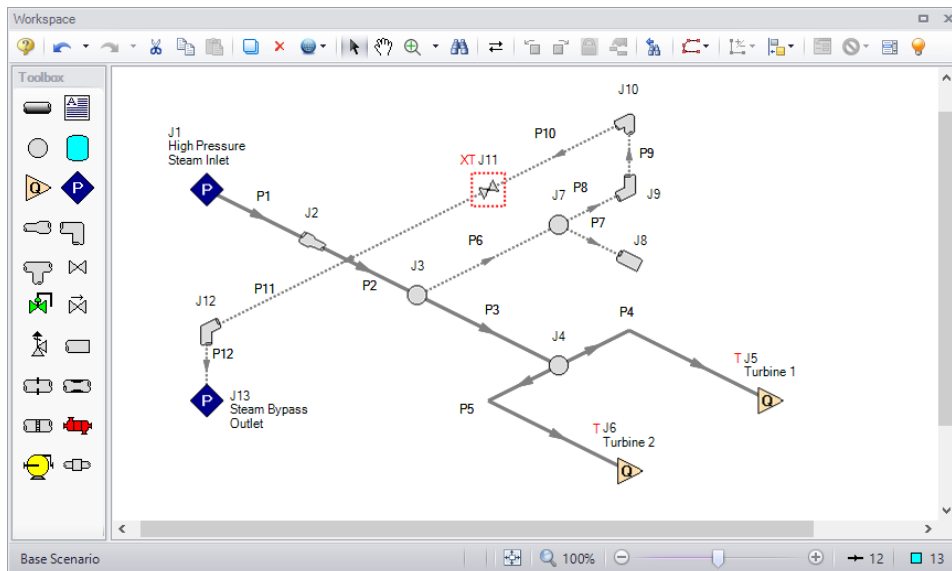

Figure 2: Isometric layout with the grid turned off
6. The grid can be shown or turned off in the Arrange menu, as shown in Figure 2.